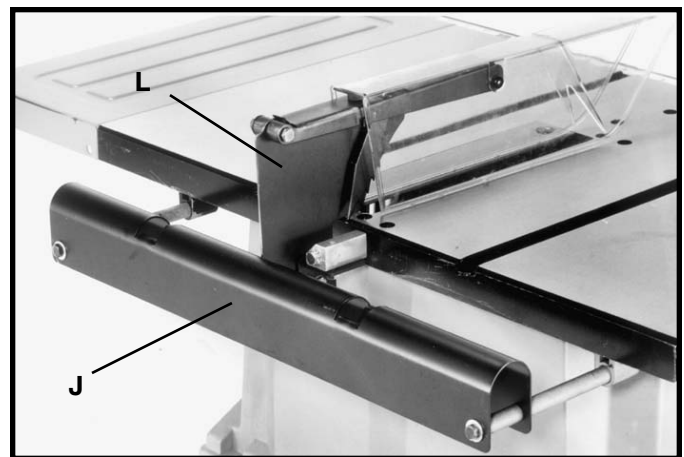

Fig. 35
5. Push entire outfeed support assembly (J) Fig. 35, in until it contacts splitter/guard assembly (L) as shown. Then tighten all outfeed support mounting hardware.